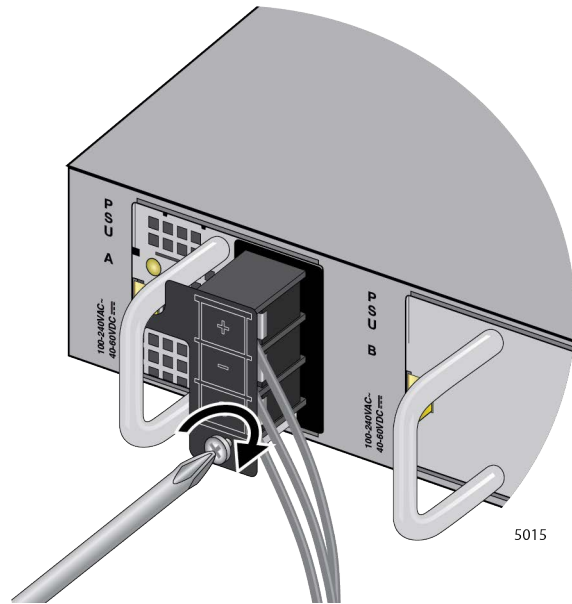

Figure 75. Tightening the Screw for the Cover Panel
9. Tighten the screw for the cover panel. Refer to Figure 75.